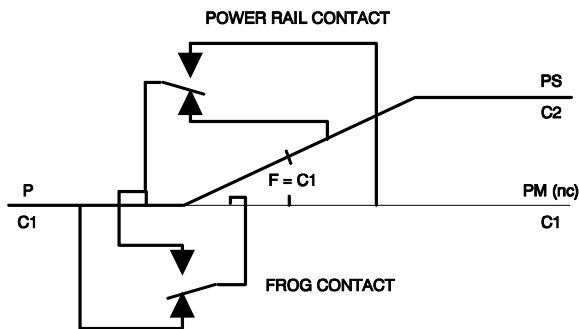

Figure 7-5 Power Rail Routine to Siding
In Figure 7-5, the same switch is aligned for the siding. Note that the contacts move with the points, and the frog (F) is now connected to the C1 rail. The siding power rail (PS) is connected to the power rail for the main (P), and the main line power rail (PM) beyond the switch is not connected (nc). A train will now run on the siding, but remain stopped on the main.